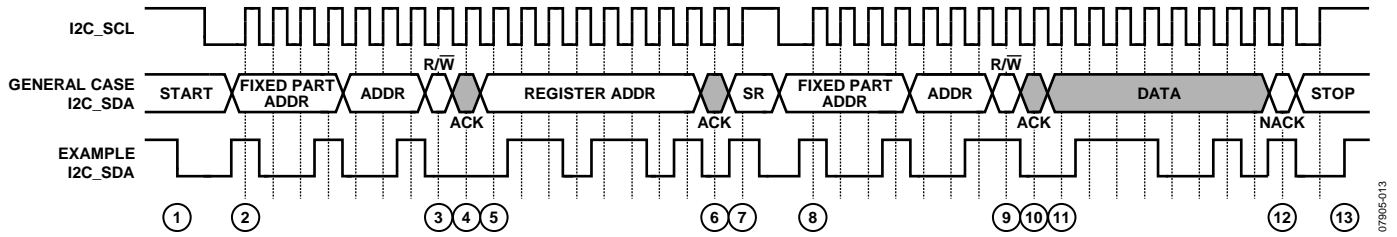

Figure 33. I²C Read Procedure
To read data from the **ADV3002** register set, an I²C master (such as a microcontroller) needs to send the appropriate control signals to the **ADV3002** slave device. The signals are controlled by the I²C master unless otherwise specified. For a diagram of the procedure, see Figure 33. The steps for a read procedure are as follows:
3. Send the write indicator bit (0).
7. Send a repeated start condition (SR) by holding the I2C_SCL line high and pulling the I2C_SDA line low.
9. Send the read indicator bit (1).
- a. Send a no acknowledge (NACK) followed by a stop condition (while holding the I2C_SCL line high and pulling the SDA line high) and release control of the bus to end the transaction (shown in Figure 33).